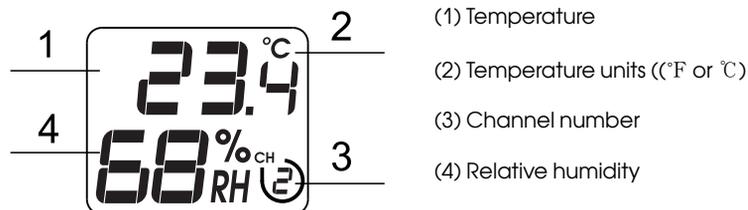

Figure 6
4. Channel Number: the weather station support up to eight sensors, and includes three transmitters. To set each channel number, change Dip Switches 1,2,3 as referenced in Figure 6.
8. Verify the correct channel number (CH) and temperature units of measure are on the display, as shown in Figure 6.